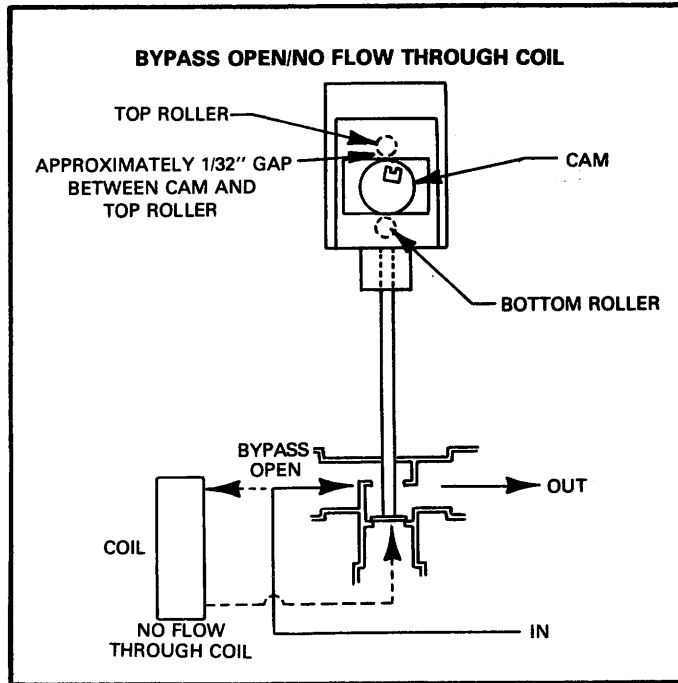

FIGURE 19
- 2 - Using load simulator, set command voltage at 12 VDC (no heat). Refer to page 12 , section "III - System Check Using Load Simulator." Valve motor shaft should rotate counterclockwise lowering valve stem. Refer to Figure 19.